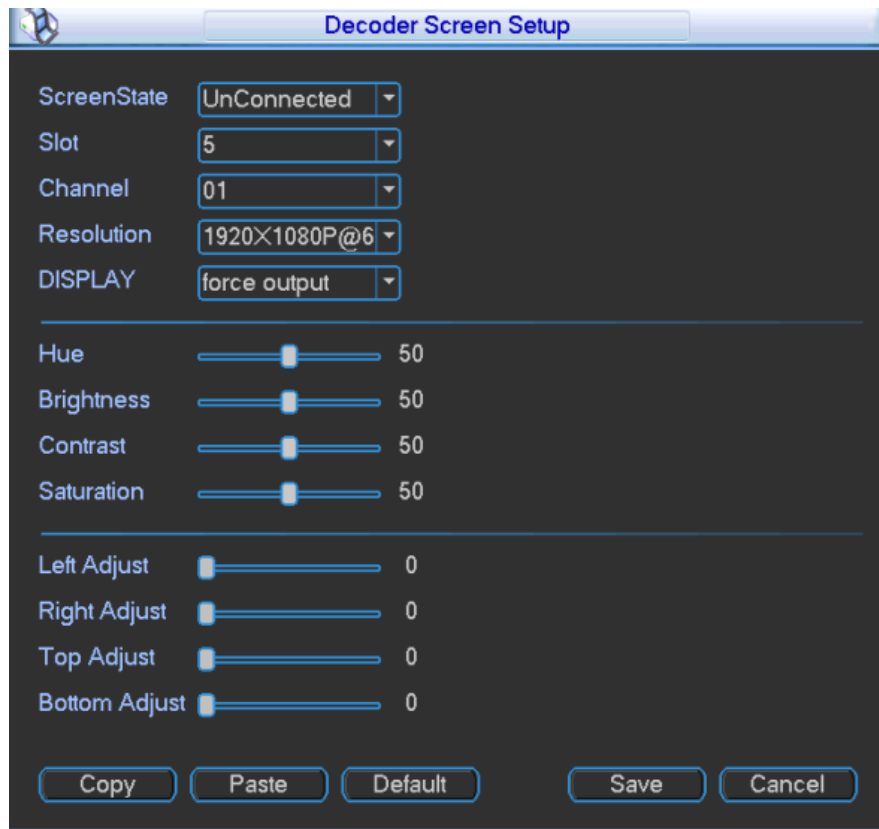

Figure 3-65
Step 1 Click "Decoder Screen Setup". The system displays "Decoder Screen Setup" interface, as shown in Figure 3-65.